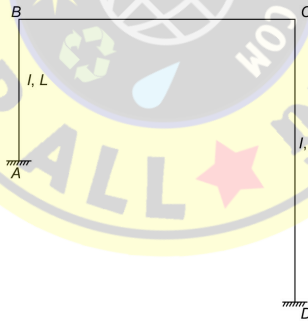

Fig. Q. 45
45. The ratio of fixed end moments developed in columns AB and DC in the frame shown Fig. Q. 45 due to sway is